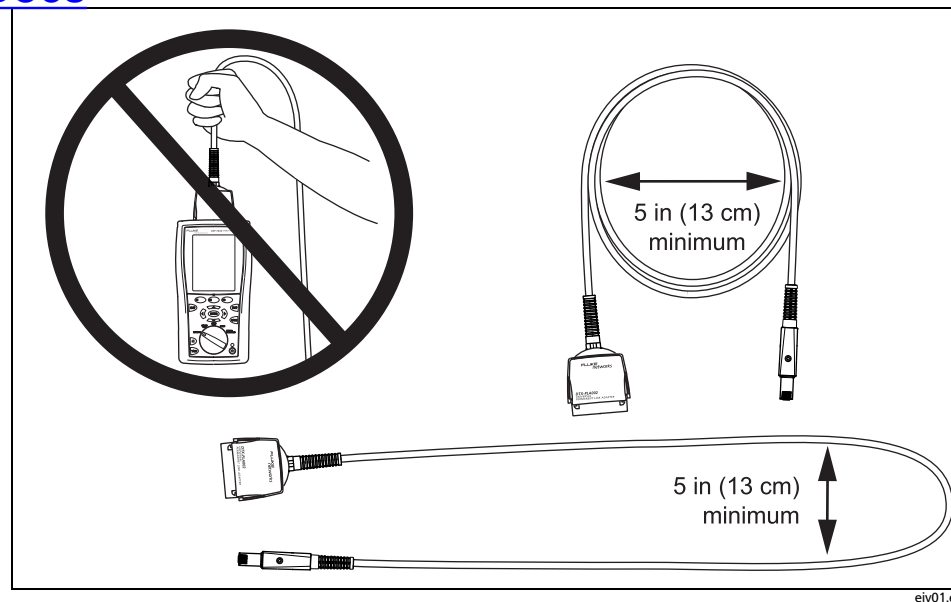

Figure 1. Handling Guidelines
- Never pinch, kink, or crush the adapter's cable. Follow the handling guidelines given in Figures 1 and 3.